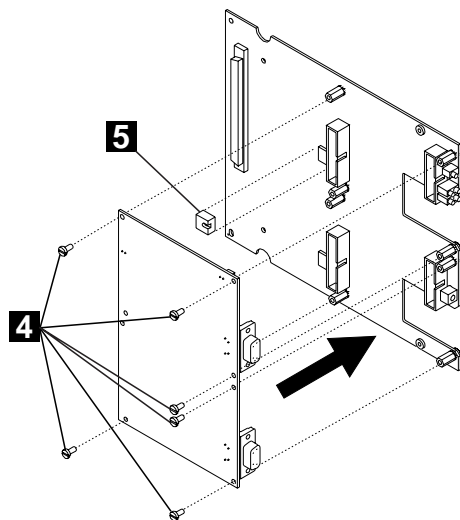

Figure 5. Attaching the I/O Card
- 5 Attach the I/O card to the motherboard using the four screws provided (**4** in Figure 5).